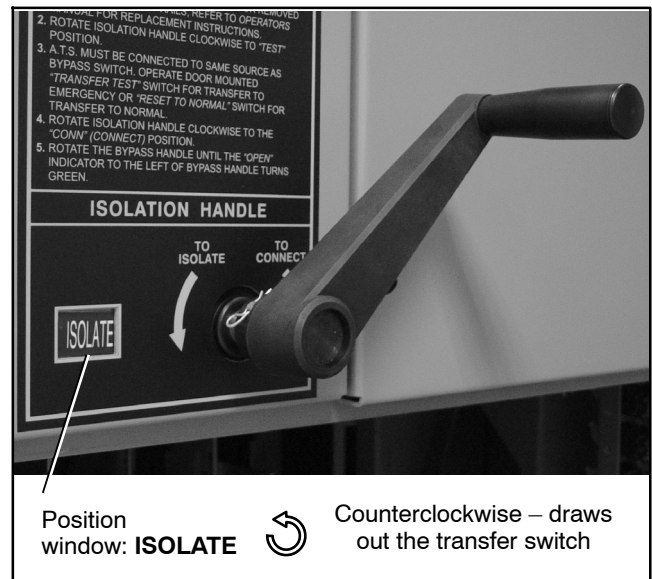

Figure 7-41 Isolation Handle Turned to ISOLATE.
3. Continue turning the Isolation Handle counterclockwise (approx. 6 turns) until the window shows **ISOLATE**. See Figure 7-41. The amber TS Isolated light should come on (Figure 7-42).